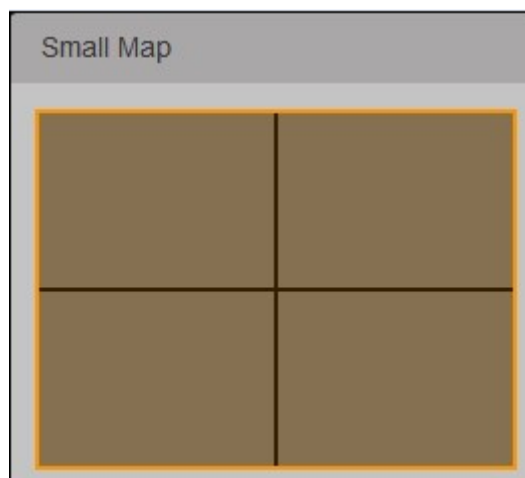

Figure 4-26
Step 1 Click . The system displays “Small Map” interface, as shown in Figure 4-26.